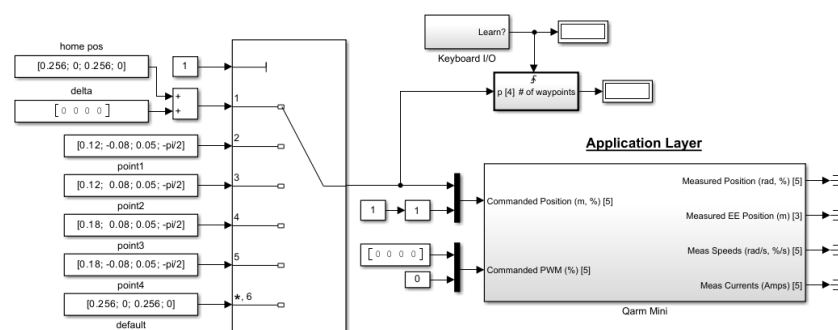

Figure 2. Teach Pendant (Learn)
- The multiport switch in Figure 2, takes in x, y, z positions (in meters, relative to the base) and  $\gamma$  (gamma), the end-effector angle, as inputs.